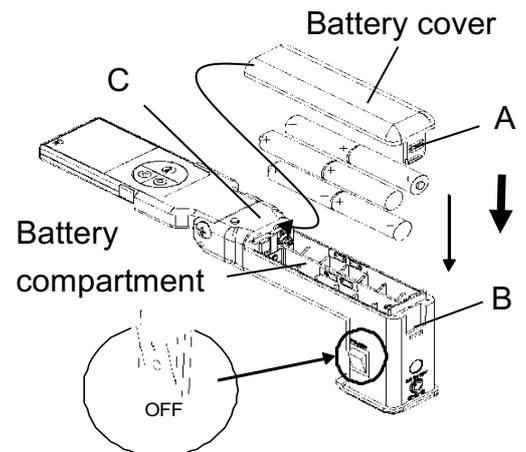

Figure 6-2 Battery insertion
- (3) Remove all six batteries from the compartment.
- (4) Insert six new AA batteries (standard alkaline batteries or the Ni-MH rechargeable batteries), observing the polarity marks (+/-) inside the battery compartment as shown in Figure 6-2.
- (5) Slide in the cover to the point C, press down on the point A (shown in Figure 6-2), slide down the cover to the point B (in the direction indicated by the arrow) and close the cover.